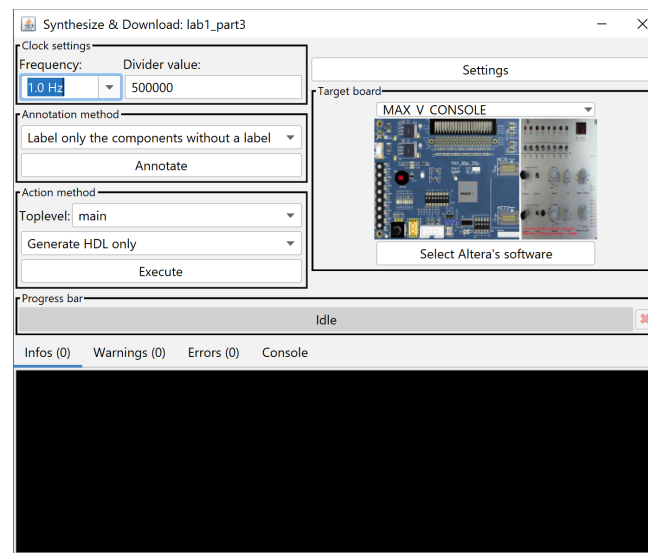

Figure 2.5: The 'Synthesize & Download' window
1. Navigate to **FPGA > Synthesize & Download**. A small window should open (Figure 2.5).
10. In the **Action method** panel (Figure 2.5), select the appropriate Toplevel circuit (typically main). From the pull-down menu, make sure that **Synthesize & Download** (not **Generate HDL only**) is selected.